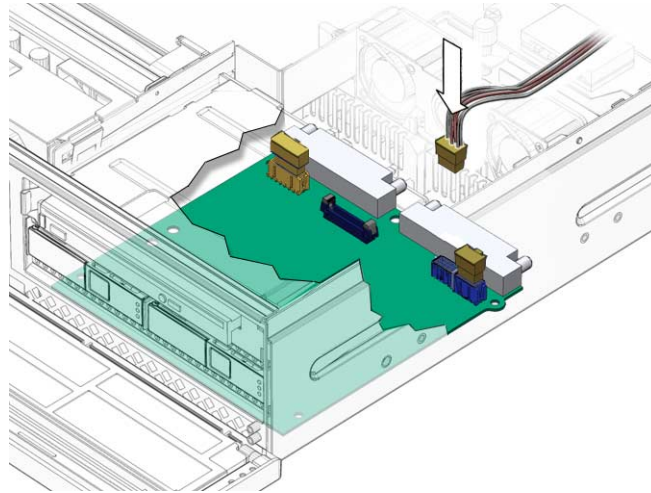

FIGURE 3-39 Connecting the Hard Drive Fan Assembly Cable
4. Connect the hard drive fan assembly cable to the power board at connector J5 (FIGURE 3-39).